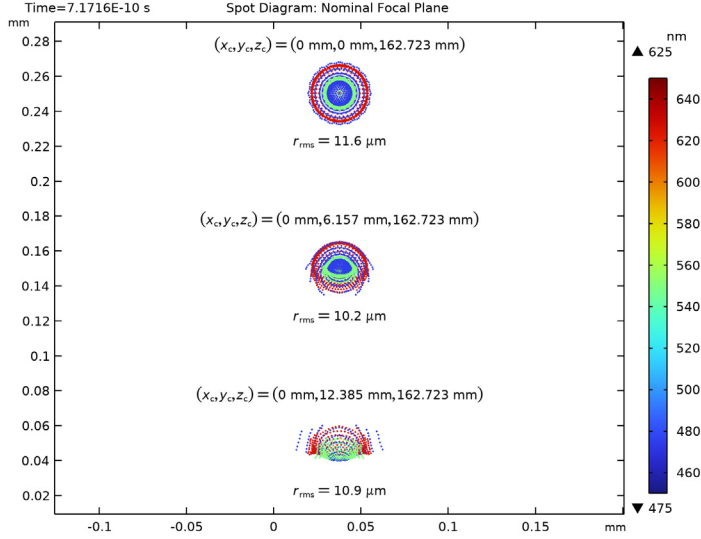
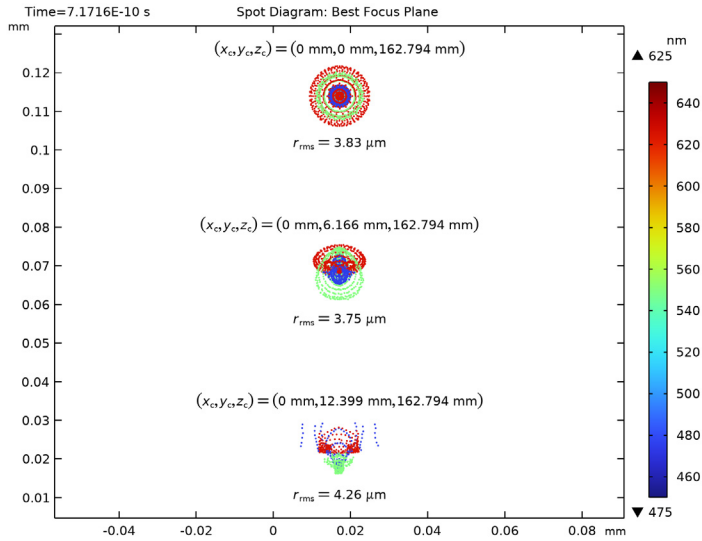

Figure 5: The image quality on the nominal image surface. This is the detector surface after being subject to thermal expansion.
Figure 6: Image quality on the best focus plane. That is, this is the surface that gives the minimum RMS spot size on-axis.
The image quality on the nominal and “best focus” image planes is shown in Figure 5 and Figure 6. When compared with a model not using hyperelastic effects (that is, Petzval Lens STOP Analysis) it can be seen that the image planes are shifted by  $3\ \mu\text{m}$  and  $2\ \mu\text{m}$  when comparing the nominal and best focus image planes respectively. This suggests that the hyperelastic material properties have a small, but not insignificant impact on the model.
Click the  **Zoom Extents** button in the **Graphics** toolbar. The nominal image surface spot diagram should look like Figure 5.
- 7 Click the  **Zoom Extents** button in the **Graphics** toolbar. The best focus spot diagram should look like Figure 6.